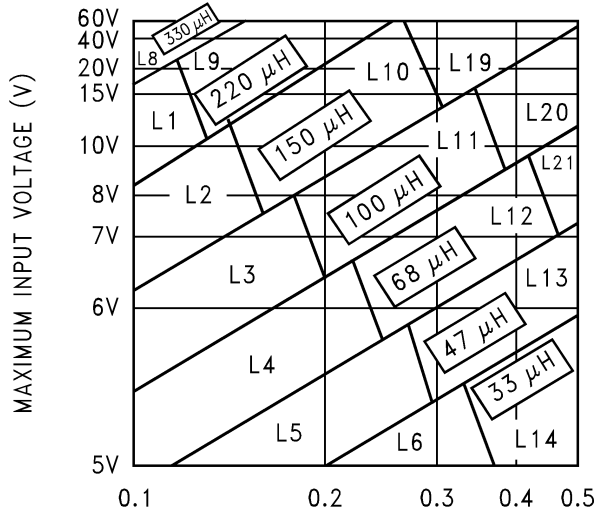
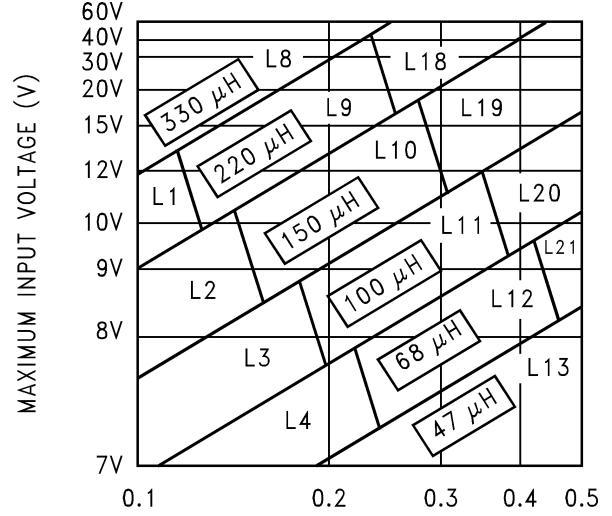
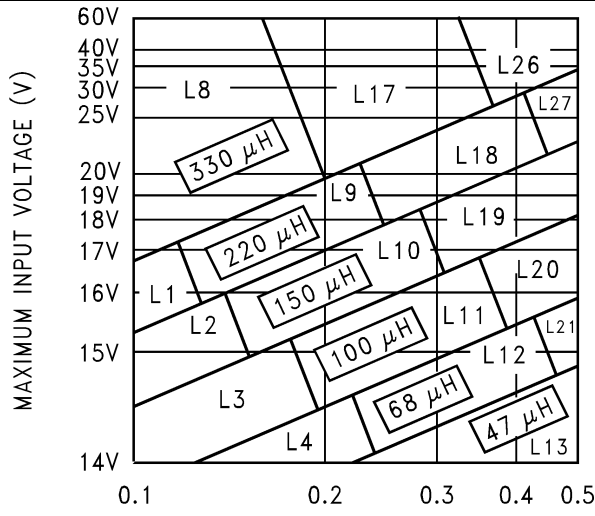
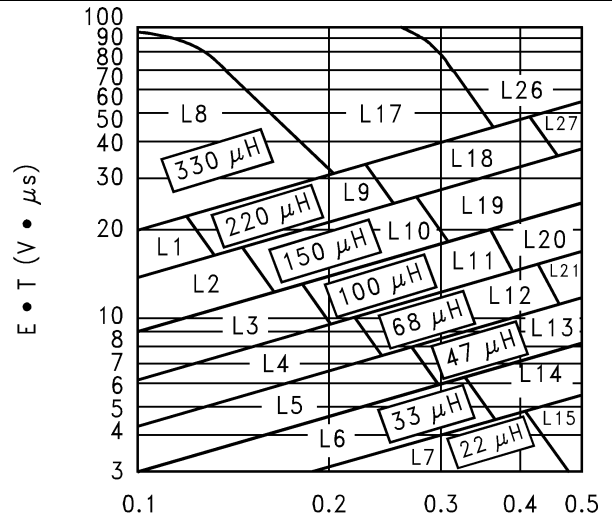

Figure 38. LM2597xx 3.3-V Version
Figure 39. LM2597xx 5-V Version
Figure 40. LM2597xx 12-V Version
Figure 41. LM2597xx Adjustable Voltage Version
For continuous mode operation, see the inductor selection graphs in Figure 38 through Figure 41
In a switching regulator design, knowing the value of the peak-to-peak inductor ripple current ( $\Delta I_{IND}$ ) can be useful for determining a number of other circuit parameters. Parameters such as, peak inductor or peak switch current, minimum load current before the circuit becomes discontinuous, output ripple voltage and output capacitor ESR can all be calculated from the peak-to-peak  $\Delta I_{IND}$ . When the inductor nomographs shown in Figure 38 through Figure 41 are used to select an inductor value, the peak-to-peak inductor ripple current can immediately be determined. Figure 42 shows the range of ( $\Delta I_{IND}$ ) that can be expected for different load currents. Figure 42 also shows how the peak-to-peak inductor ripple current ( $\Delta I_{IND}$ ) changes as the designer goes from the lower border to the upper border (for a given load current) within an inductance region. The upper border represents a higher input voltage, while the lower border represents a lower input voltage (see Inductor Selection).
The selection guide in Figure 39 shows that the vertical line for a 0.3-A load current and the horizontal line for the 15-V input voltage intersect approximately midway between the upper and lower borders of the 150- $\mu\text{H}$  inductance region. A 150- $\mu\text{H}$  inductor allows a peak-to-peak inductor current ( $\Delta I_{IND}$ ) to flow a percentage of the maximum load current. Referring to Figure 42, follow the 0.3-A line approximately midway into the inductance region, and read the peak-to-peak inductor ripple current ( $\Delta I_{IND}$ ) on the left hand axis (approximately 150 mAp-p).
1. Select the correct inductor value selection guide from Figure 38, Figure 39, or Figure 40 (output voltages of 3.3 V, 5 V, or 12 V respectively). For all other voltages, see the design procedure for the adjustable version.
Use the inductor selection guide for the 5-V version shown in Figure 39.
From the inductor value selection guide shown in Figure 39, the inductance region intersected by the 12-V horizontal line and the 0.4-A vertical line is 100  $\mu\text{H}$ , and the inductor code is L20.